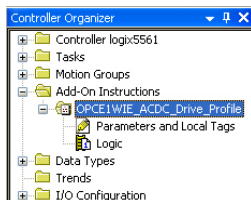

Figure 97: AC/DC Drive Profile AOI
- 2) Right click on "Add-On Instructions" in the controller organizer view and select "Import Add-On Instruction". Browse and import the AC/DC drive profile AOI. Refer to Figure 97.